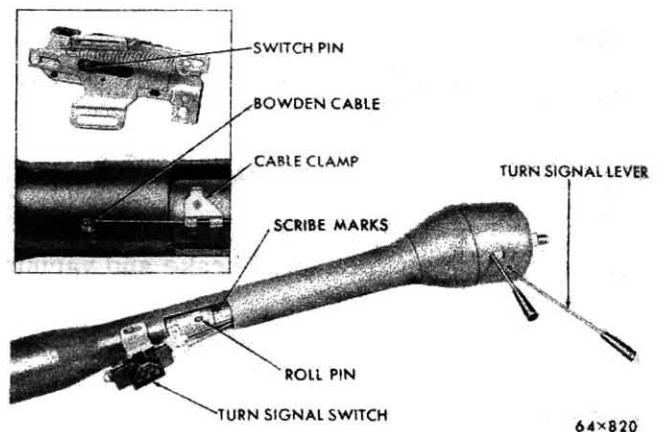
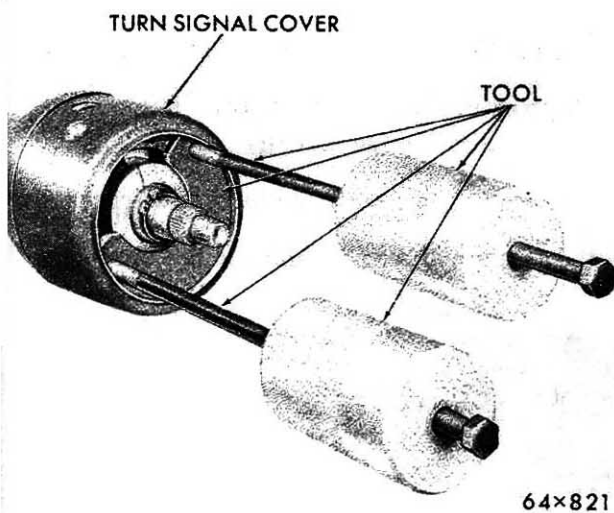

Fig. 20 - Tilt Column Assembly and Turn Signal
Fig. 21 - Removing the Turn Signal Cover
- (1) Disconnect the negative battery cable at the battery post.
- (2) Compress and turn the horn button 1/4 turn counterclockwise to release the horn button from the retainer.
- (3) Remove the three screws and insulators attaching the horn ring and horn blowing switch to the steering column and remove the horn ring and switch.
- (4) Place the front wheels in the straight ahead position and steering gear on high point, loosen the steering wheel nut several turns and install the steering wheel puller Tool C-3428A to remove the steering wheel.
- (5) Remove the two bolts attaching the steering jacket tube clamp at the instrument panel and remove the clamp.
- (6) Disconnect the directional switch multiple plug and horn wire at the jacket tube just below the instrument panel.
- (7) Remove the screws attaching the floor plate seal to the floor panel and slide the seal up on the jacket tube.
- (8) Scribe alignment marks on both the upper and lower shafts to ensure proper reassembly and remove the roll pin attaching the steering lower column shaft to the column upper shaft (Fig. 20 - page 38).
- (9) Loosen the jacket tube clamp bolt and clamp at the steering gear housing.
- (10) Pry between the jacket tube clamp and the steering gear housing to loosen the jacket tube from the column jacket support rubber insulator boot.
- (11) Slide the jacket tube and adjustable wheel unit rearward and off the lower steering tube.
- (4) Make sure alignment marks scribed on the upper and lower shafts are properly aligned, then install the roll pin attaching the upper and lower shafts (Fig. 20).
- (5) Position the floor plate seal on the floor panel and install the attaching screws.
- (6) Connect the directional signal wires and the horn wire at the connectors.
- (7) Install the steering wheel and steering wheel nut to 24 foot-pounds torque.
- (8) Install the horn blowing switch, horn ring, the insulators and attaching screws.
- (9) Compress and turn the horn button 1/4 turn clockwise to lock the horn button on the retainer.
- (10) Connect the battery cable to the battery terminal post.
- (1) Remove the two screws attaching the turn signal switch to the jacket column, turn the switch over and remove the cable clamp attaching screw and the coiled end of the Bowden wire from the switch pin. (Fig. 20 - page 38).
- (2) Place the adjustable wheel in the center (straight) position and remove the turn signal switch lever and the release lever.
- (3) With Tool-SP-3426A weights assembled on puller Tool C-3954, engage the tool under the inside flange of the turn signal cover (Fig. 21) and pull the turn signal cover evenly from the column assembly.